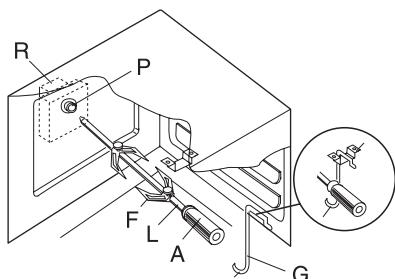

fig. 11
- Put the food on the spit (L) and secure it so that it is firmly attached and evenly distributed using the hooks (F). See fig. 11
- Push the rotary spit into the opening (P) of the coupling and lay it at the front in the hook (G). Remove the handle (A).